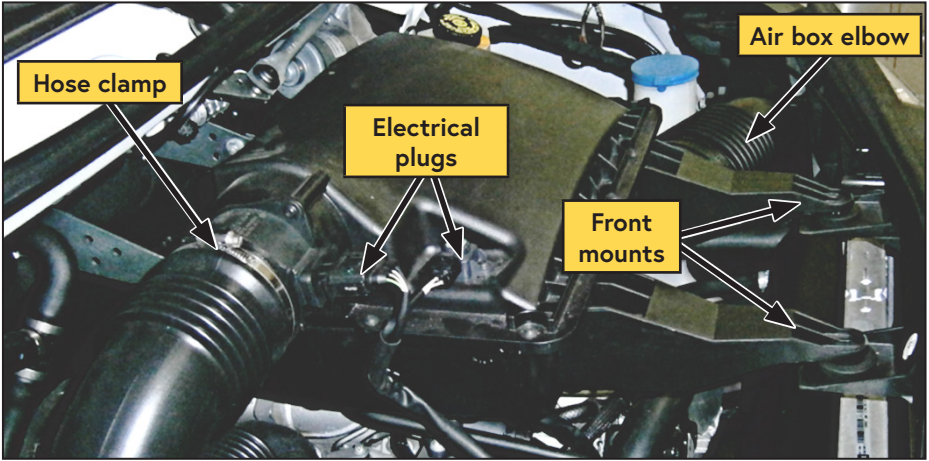

Figure 19 — Remove air box
- Reinstall the air box, including the related hoses and electrical connectors (Figure 19).